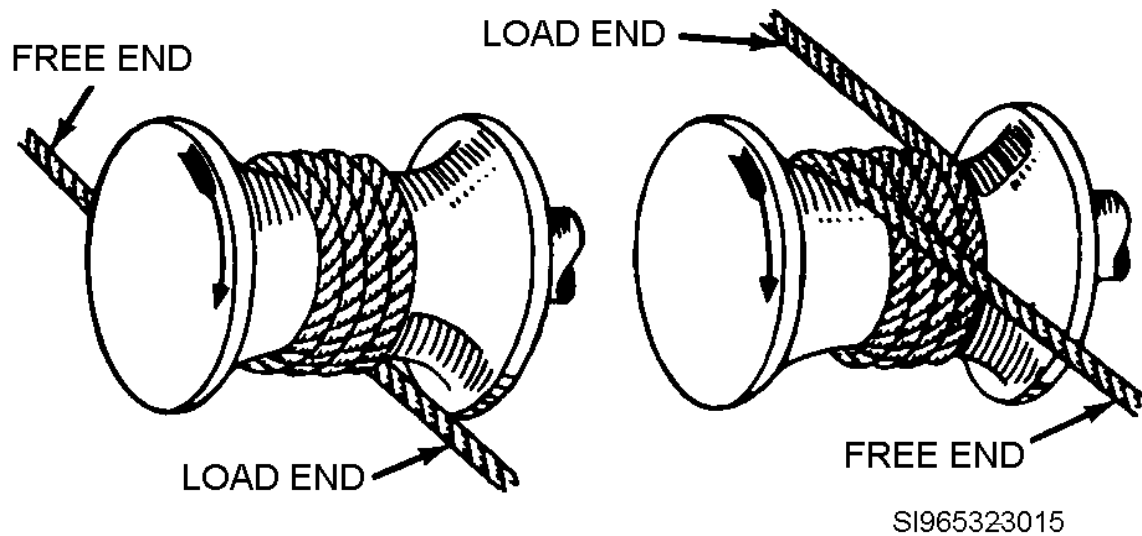

Figure 1, Capstan
- Wind the rope clockwise on the capstan, as shown in Figure 1, with the load end next to the truck.